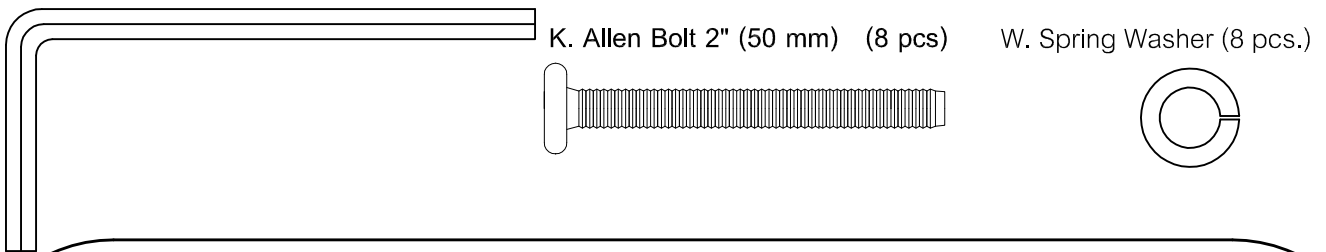

FIG 2.1
- Place the legs into its appropriate position as shown in FIG.2.1.